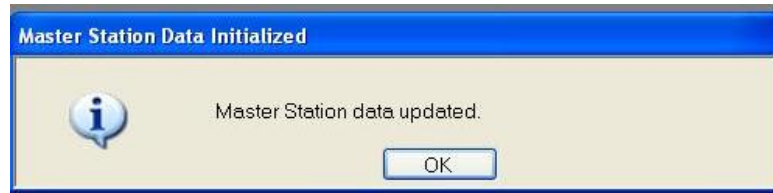

Figure B-14: Master Station Data Initialized Window
- Click **OK** to proceed. If initialization is successful, the *Master Station Data Initialized* window is displayed indicating Master Station data updated. (Figure B-14).